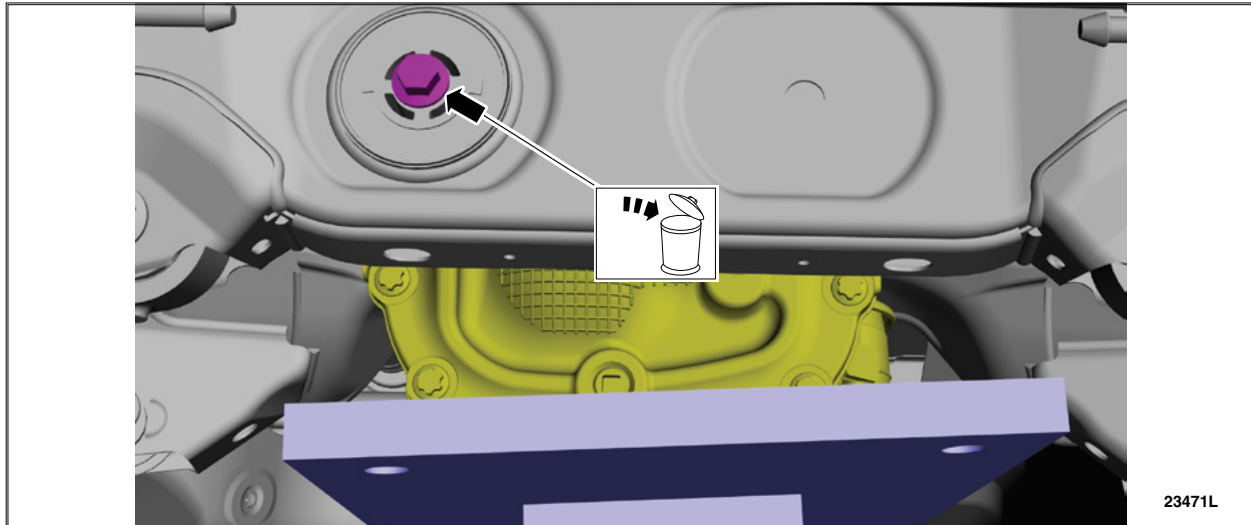

FIGURE 12
18. Remove and discard the rear axle housing support rear bolt. See Figure 12.